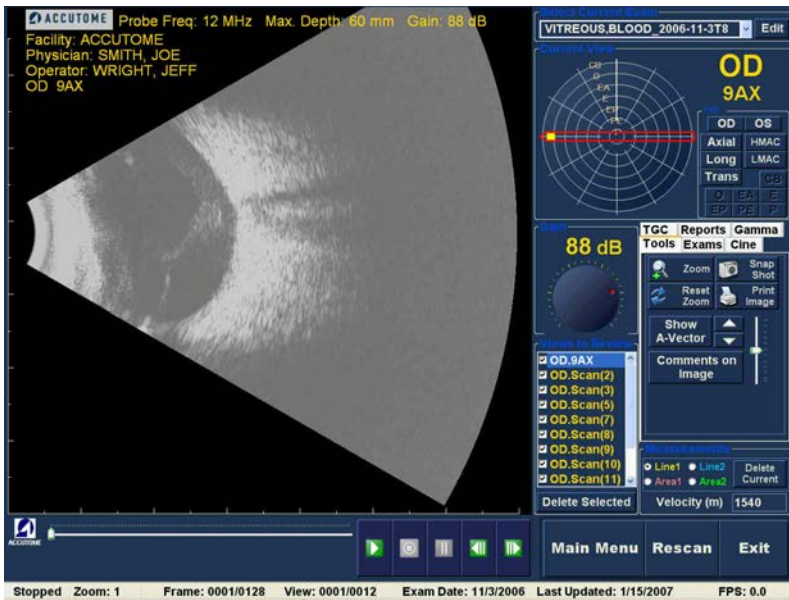

Figure 6.5 - Existing Exam Displayed
- Position the mouse cursor on the name of the Exam you would like to analyze. The exam will displayed in the screen as shown in Figure 6.5 below.